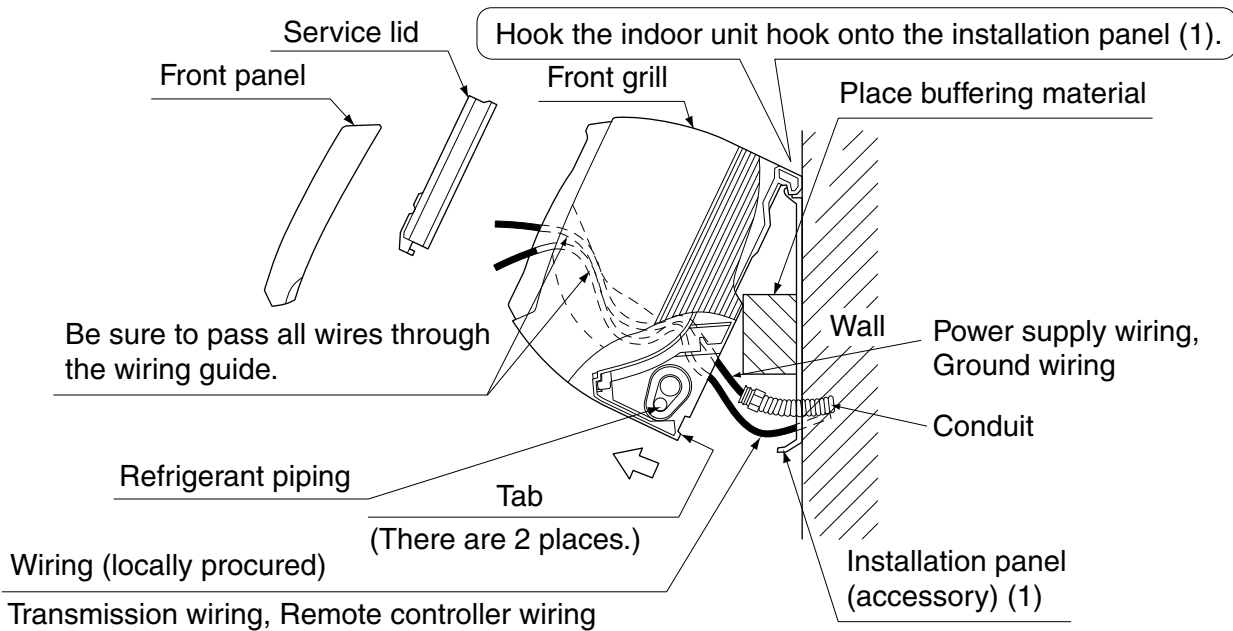

Fig. 9
(6) Hook the indoor unit onto the installation panel. (Refer to Fig. 9)
(9) Push on both bottom edges of the indoor unit using both hands and hook the tab on the back of the indoor unit onto the installation panel (1). (Refer to Fig. 9)
- At this time remove the buffering material placed in step (6).